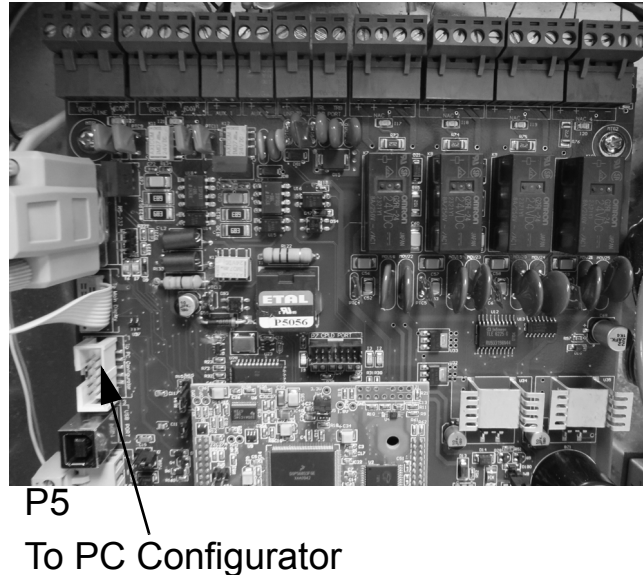

Figure 10 Picture of MR-3500 board showing Configurator Port
2. Connect the 10-pin head of the UIMA cable to port P5 on the MR-3500. It is labeled **To PC Configurator**. See Figure 10.